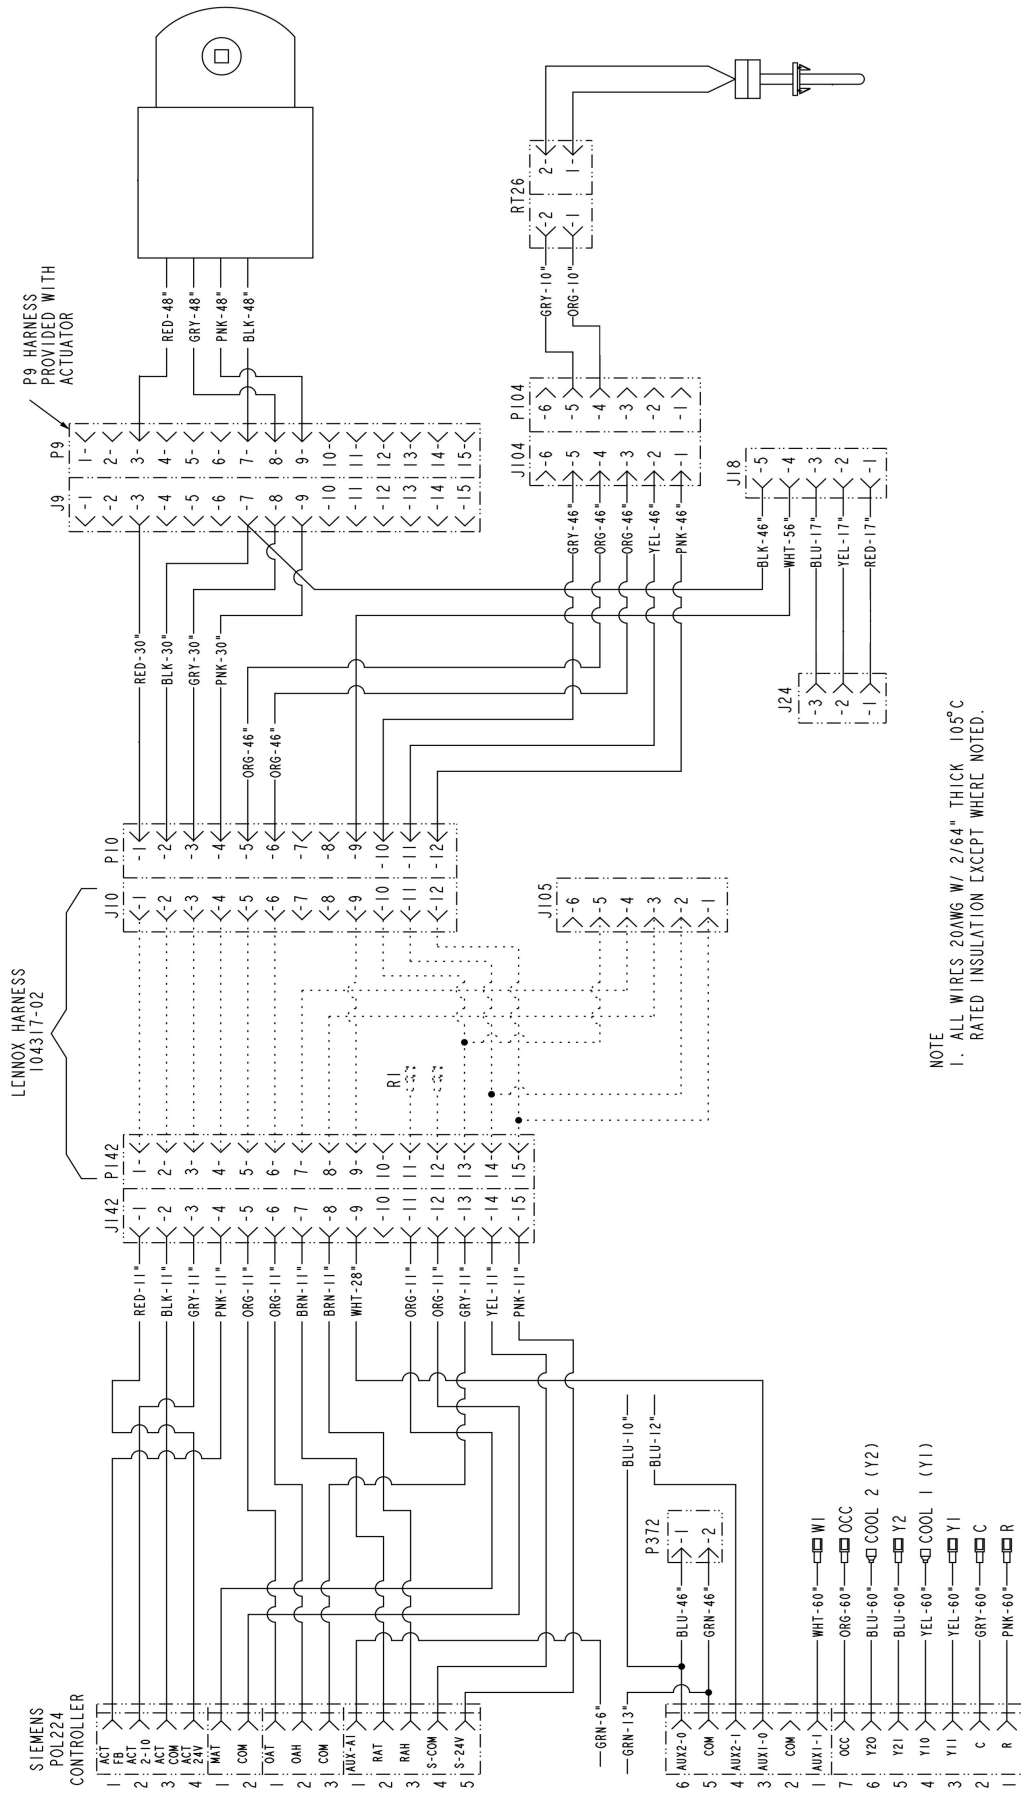

Figure 7 - Wiring Detail
2. Route the control wires to unit terminal block (TB1) and connect these wires to TB1 as follows (see Fig. 7):
6. If optional power exhaust is used, wire according to instructions provided with power exhaust. See Fig. 7.